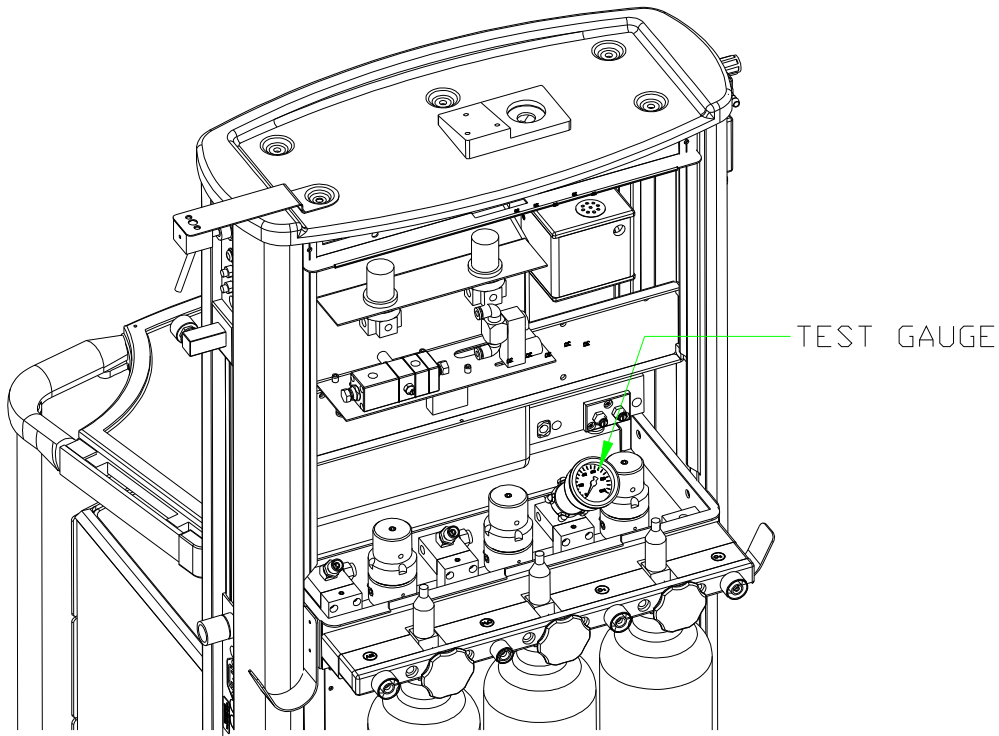

Figure 11: Test Gauge on Manifold
- Connect a test gauge manometer (1000 kPa) to the connector of manifold connected to RG1 under test (see Figure 11).